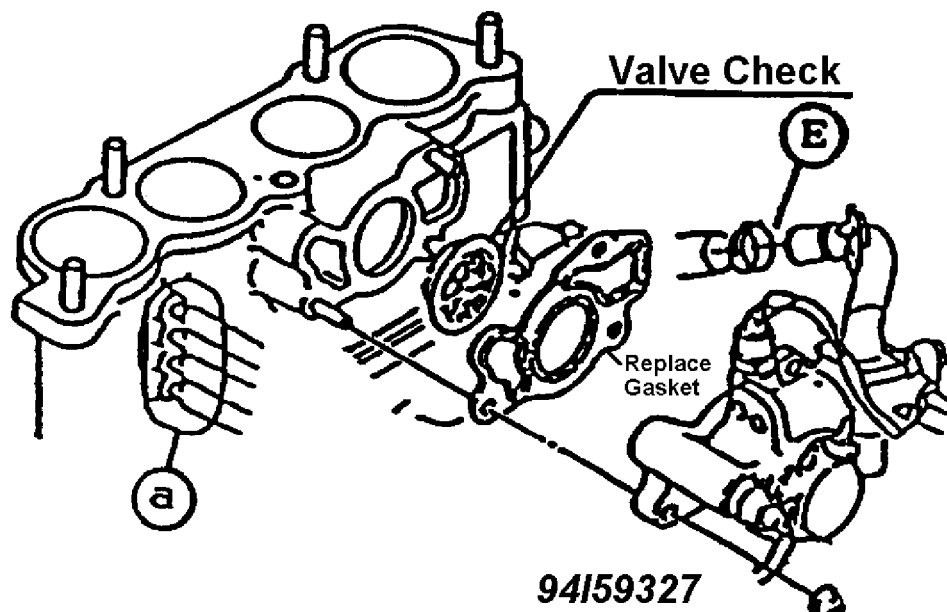

Fig. 45: Removal of Relief Air Hose & Vacuum Tubes
2. Remove the relief air hose. See letter E in Fig. 45.
4. Remove the vacuum tubes from the inlet manifold. See Fig. 45.